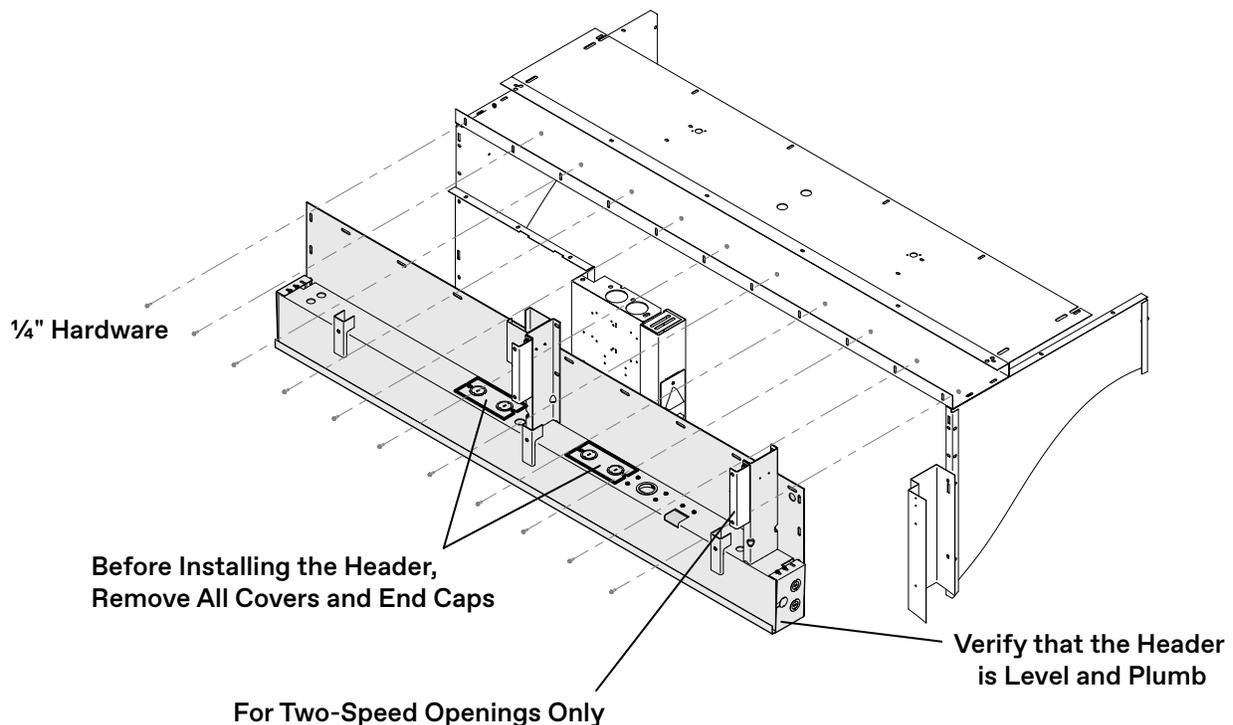

Figure 1 - Attach the Header
2. Before installing the header, remove all cover plates and end caps. See Figure 1.